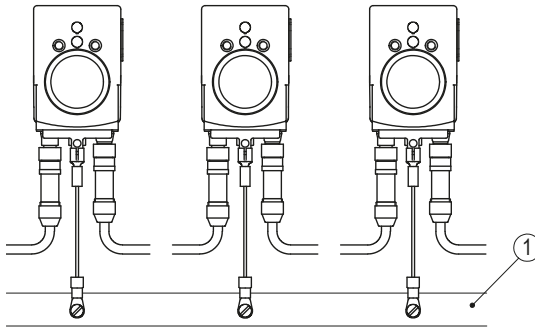

Fig. 5: Ground bar
For protection against interference, the screens of the signal lines and the power line must be connected on both sides. Potential differences cause inadmissible currents on the screen. Install the ground connection ④ onto the protective ground conductor potential between the plug connectors (see Fig. 4). Use 6.3 mm flat connectors or cable lug with short strands 2.5 ... 4 mm² (not in the scope of delivery). For multiple position indicators we recommend connecting the grounding to a ground bar ① (see Fig. 5).